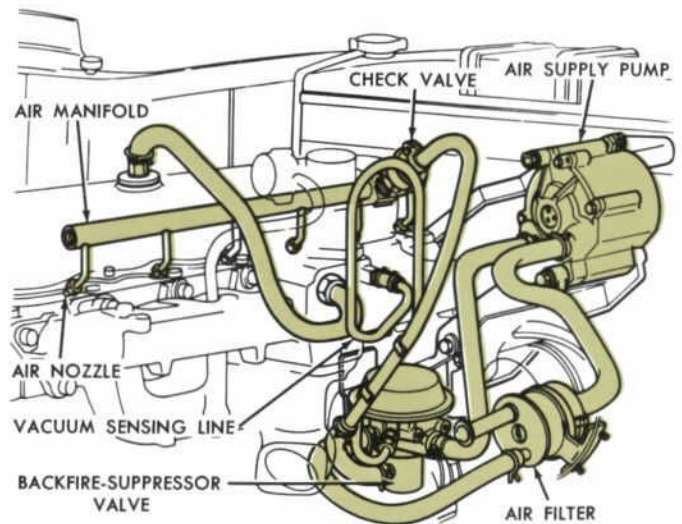

Fig. 11—Thermactor System Installation—
The Thermactor system (Fig. 11, 12 and 13) achieves control of emission gases by supplying air, under pressure, through injection tubes into the exhaust ports near each exhaust valve. The unburned hydrocarbon and carbon monoxide concentrations in the exhaust gases are converted through burning induced by the additional oxygen supply, thereby reducing the overall level of these unwanted gases emitted from the tailpipe.
**Dump or Bypass System**—Disconnect the vacuum sensing tube at the valve and plug the tube end. Figs. 11 or 13.
1 Disconnect the rubber hose connecting the anti-backfire valve to the carburetor air cleaner or air supply pump air filter, at the valve end. Figs. 11 or 13